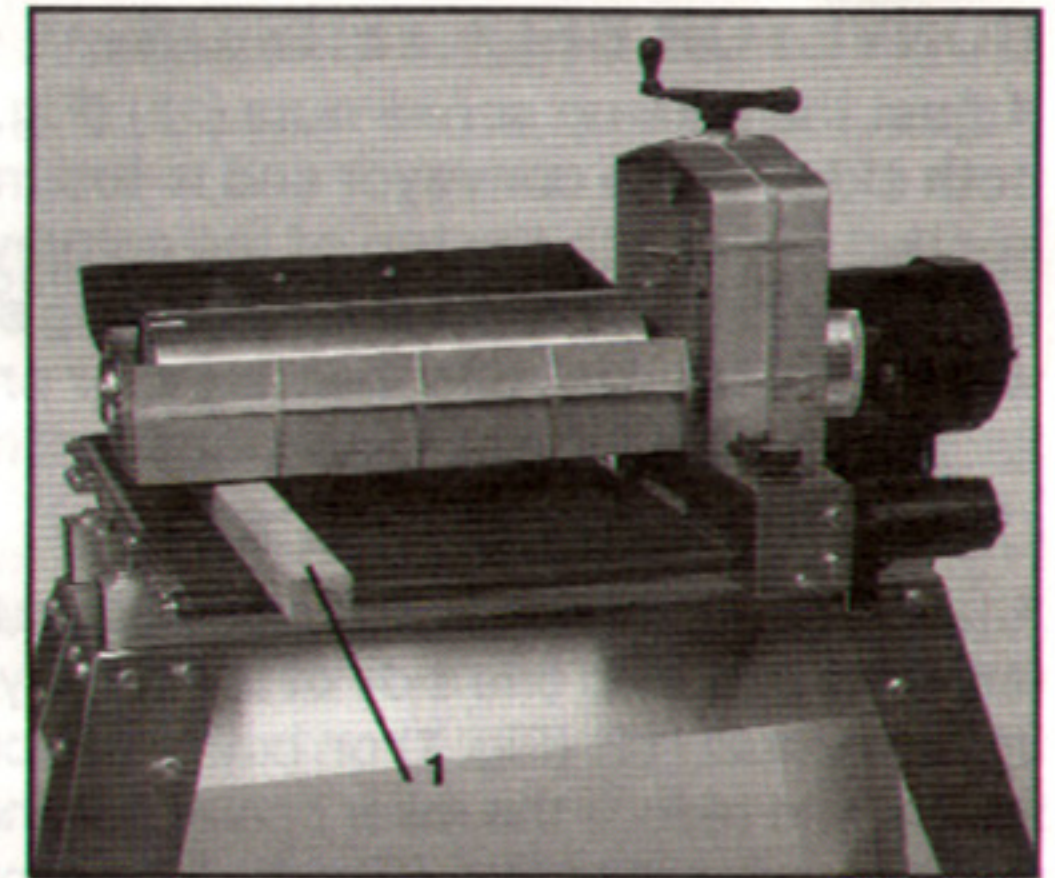

Figure 3
1. If there is mis-alignment of the drum, measure by using a narrow piece of wood as a thickness gauge (1) (Fig. 3). Insert the wood between the sanding drum and the conveyor bed at the outer end of the drum. With the dust cover open, lower sanding drum while slowly moving drum by hand until the drum lightly contacts the wood piece.